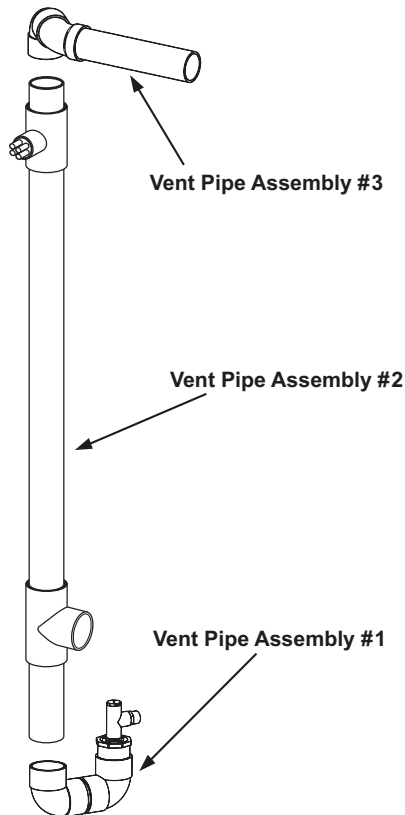

FIGURE 2.
5. Use standard PVC cement (not included with kit) and glue the Reducing Tee Assembly in between the two remainders of Vent Pipe Assembly #2. Make sure the Reducing Tee Assembly is correctly orientated relative to the Tee near the bottom of Vent Pipe Assembly #2, as shown in Figure 2. Depending on existing installation, the Reducing Tee Assembly could be orientated at a different angle as long as it makes a good fit and would facilitate its connection to condensate hoses and future service.